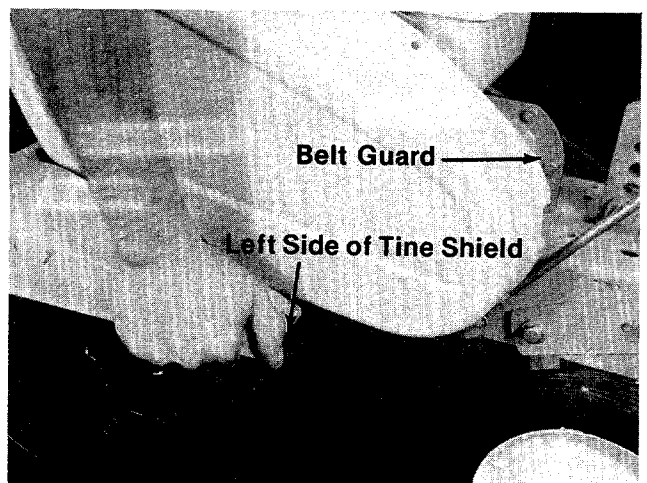

FIGURE 22.
1. Remove the belt guard, by removing four (4) hex self-tapping screws.
2. Press down on the left side of the tine shield and slip off the belt guard. See figure 22.